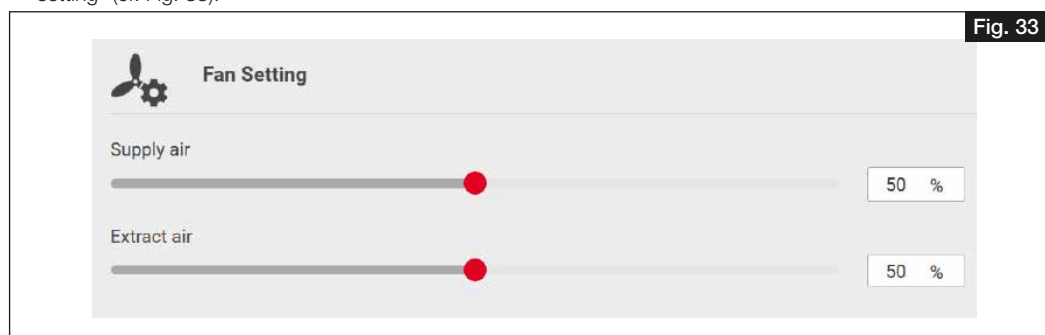

Fig. 33
5. Enter the fan powers for supply and extract air according to the determined values for nominal ventilation under "Fan setting" (cf. Fig. 33).